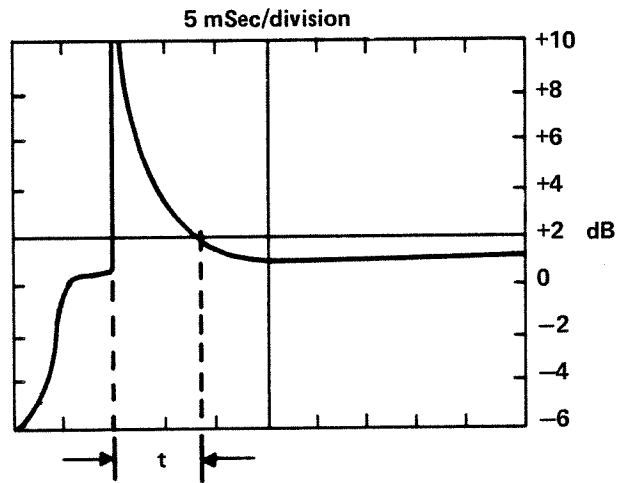

Figure 6-7. Attack Time Constant
17. Observe the trace on the spectrum analyzer and set it as in Figure 6-7, using the HORIZONTAL control on the AGC TC box and the Display adjust control on the spectrum analyzer. Record the time frame (t) shown in Figure 6-7.
19. Set the AGC TC switch on the test fixture to MED position and trigger one sweep of the spectrum analyzer. Record the time (t) as shown in Figure 6-7. Erase the sweep on the spectrum analyzer. (Slight adjustments may be necessary to relocate the trace properly).